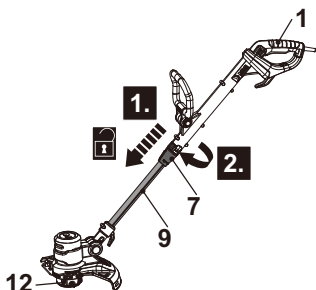

Fig. 6 (initial position 0°)
1. Slide the unlock button (7) downward and turn the main handle (1) clockwise while holding lower pole (9) to adjust the trimmer head (12) to an angle of 90° or 180° (Fig. 6). Release the unlock button (7) and keep turning the main handle (1) until it locks in place. Ensure the unlock button (7) snaps into place.